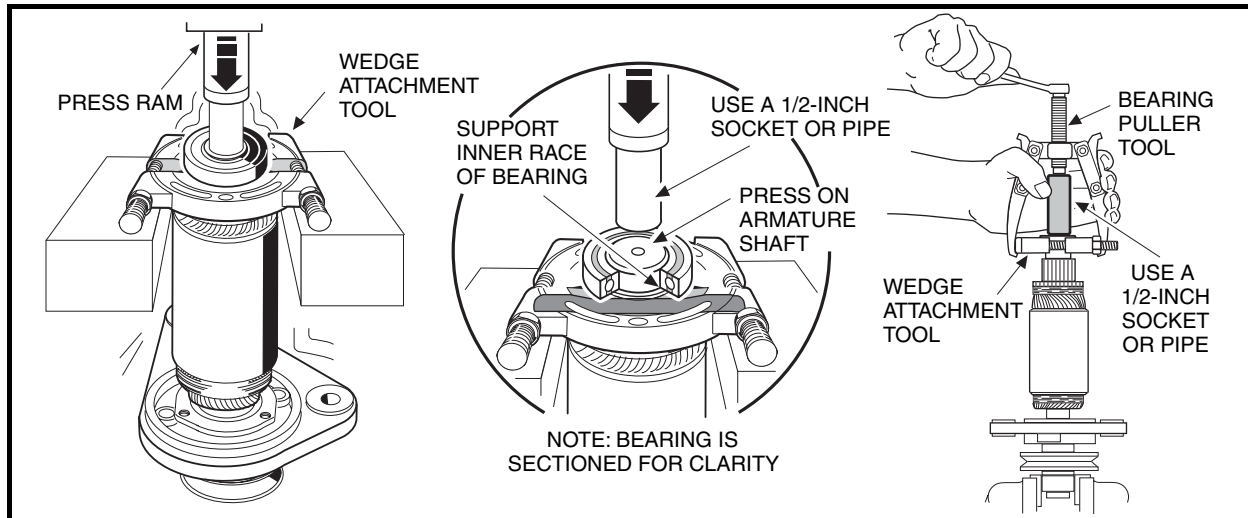

Figure 13-9 Bearing Removal
1. Place the wedge attachment tool (CCI P/N 1012812) between the bearing and the armature. Make sure the wedge attachment tool is supporting the inner race of the bearing. If a press is not available, secure a bearing puller (CCI P/N 1012811) to the wedge attachment tool and pull the bearing off of the end of the armature shaft. Support the armature so that it will not drop when the bearing is removed (**Figure 13-9, Page 13-6**).